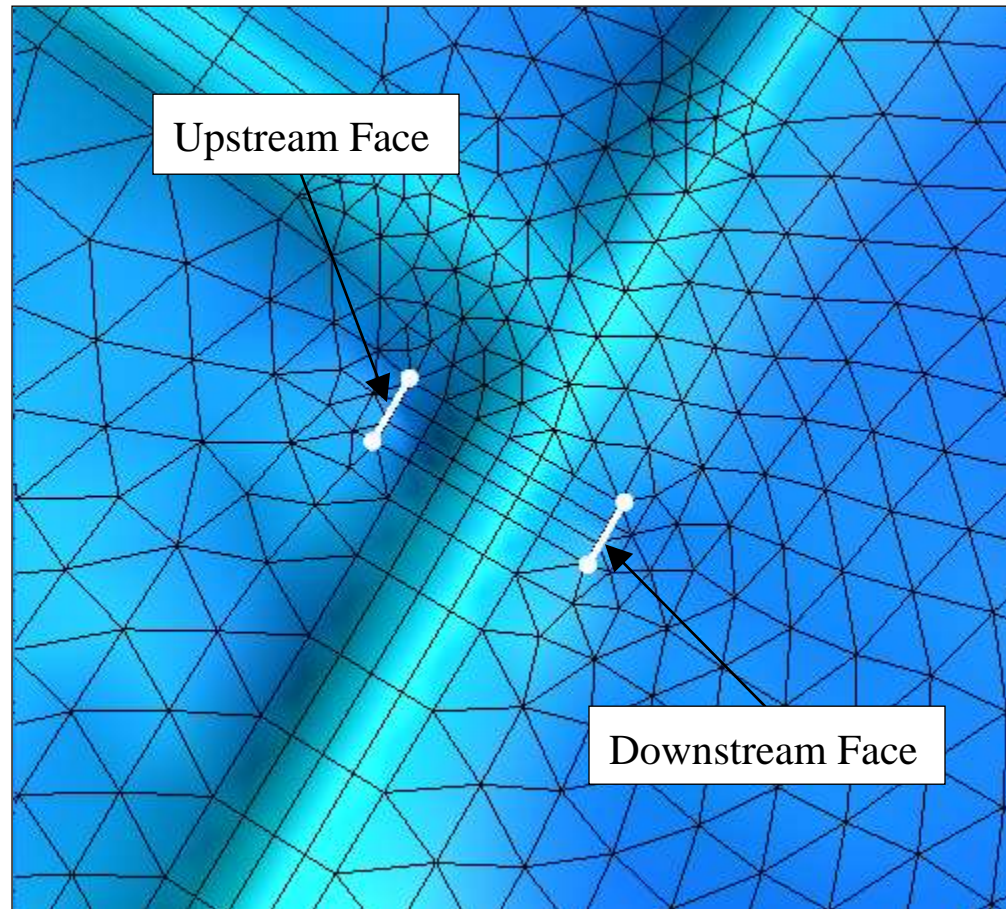

Figure 3 Upstream and downstream gate structure arcs
7. Using the **Create Feature Arc**  tool, create two arcs, one on each side of the road (Figure 3). These arcs will define the upstream and downstream faces of the gate structure.